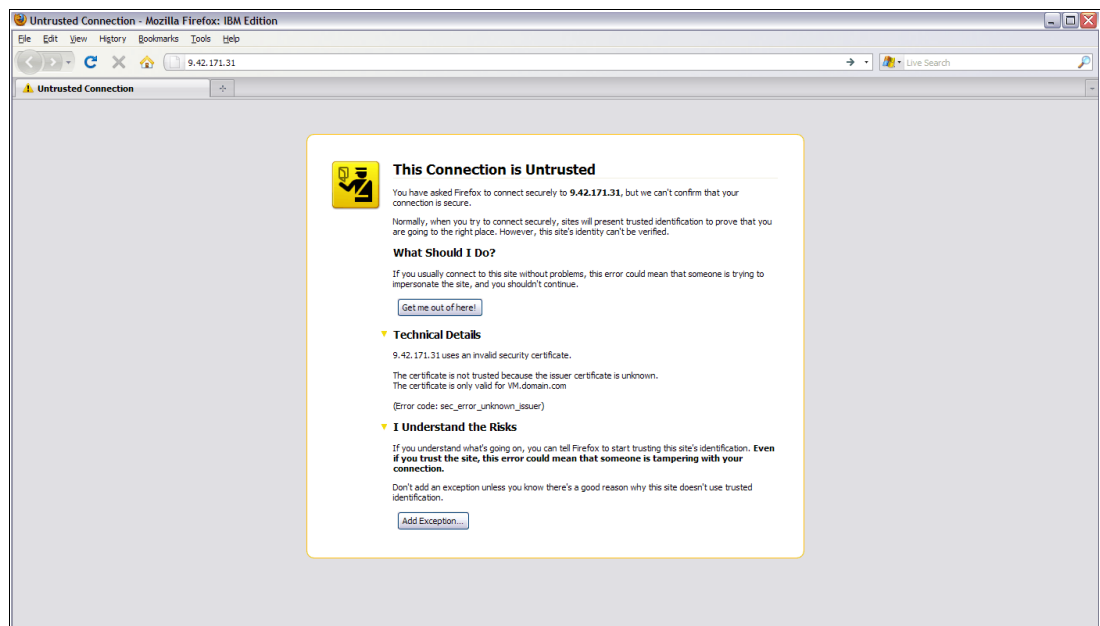

Figure 22-37 Connecting to ESX Server
1. Using your web browser, connect to the Hostname or IP address of the newly created VMware ESX Server. We used Firefox as the Internet browser application. The error in Figure 22-37 is normal behavior.